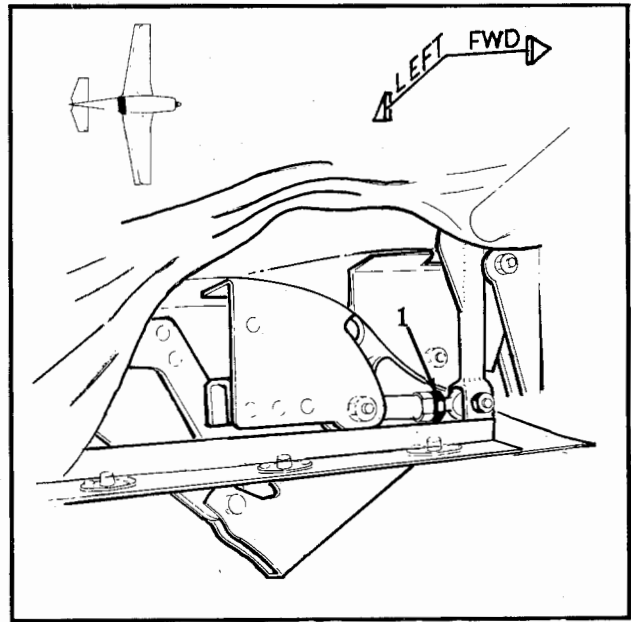

Figure 6-12. Wing Flap Adjustment
- Adjust right and left inboard linkage at rod-end bearing (1), Figure 6-12, to obtain a flap deflection of $33^{\circ} + 2^{\circ}$; set flap outboard travel stops (not illustrated). On 1975 models equipped with flap pre-select position switch, adjust position control micro switch until it just deactuates.